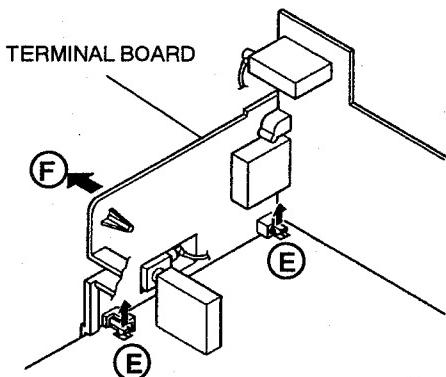
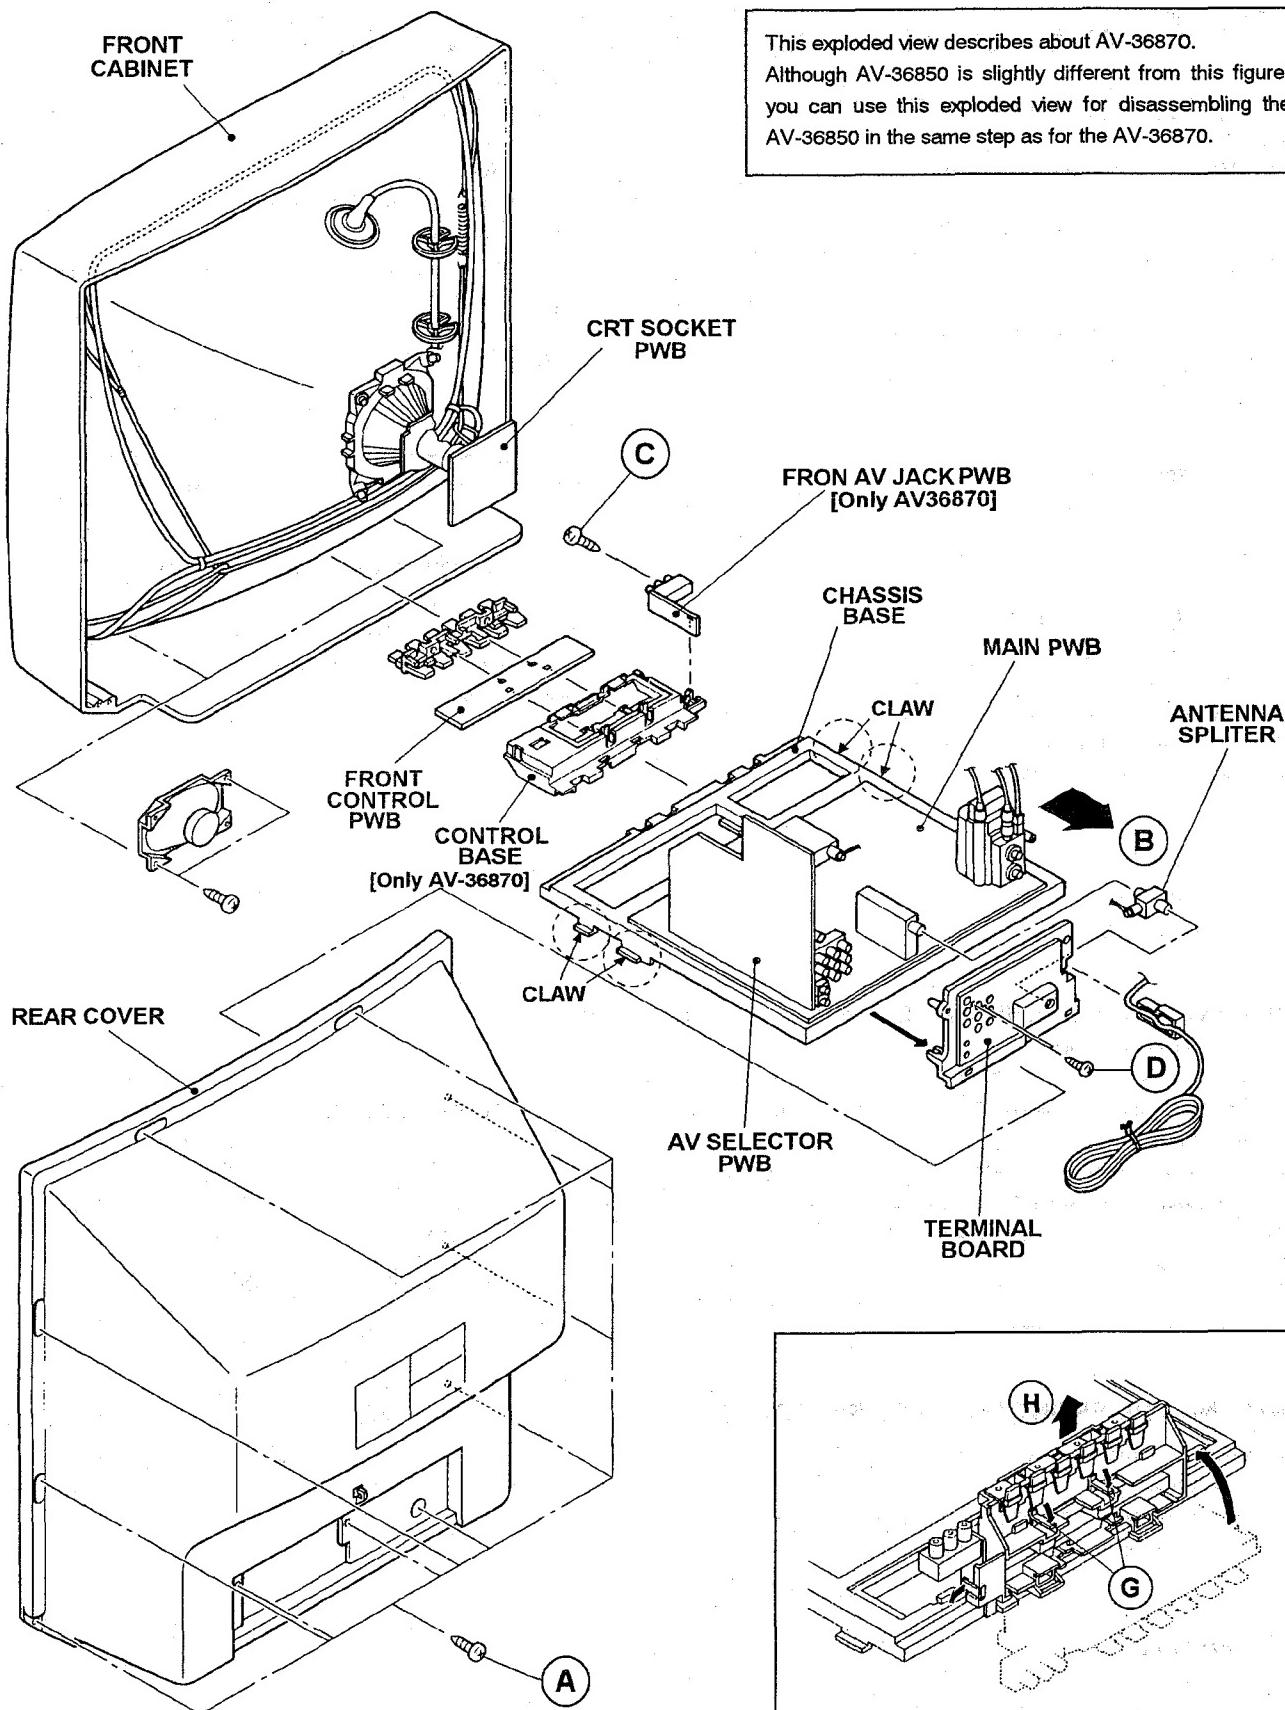

Fig. 1
Fig. 2
2. Remove the 11 screws marked A as shown in Fig.2.
Remove the screw marked C as shown in Fig.2.
2. Draw the chassis backward along the rail in the arrow direction marked B as shown in the Fig.2.
1. Remove the 2 screws marked D as shown in Fig.2.
2. After removing the claw marked E in the direction of arrow mark as shown in Fig.1.
3. When you pull out the AV TERMINAL BOARD in the direction of arrow marked F as shown in Fig.1, it can be removed.
(4) System constant check and setting <ul style="list-style-type: none"> <li>1) [ AV-36870 : RM-C885 ] Simultaneously press the DISPLAY key and VIDEO STATUS key of the remote control unit. [ AV-36850 : RM-C745 ] Simultaneously press the OSD key and STATUS key of the remote control unit. [AV-36850 : RM-C745]</li> <li>2) The SERVICE MENU screen of Fig.1 is displayed.</li> <li>3) While the SERVICE MENU is displayed, again simultaneously press the DISPLAY (OSD) and VIDEO STATUS (STATUS) keys to display the Fig.2 SYSTEM CONSTANT screen.</li> <li>4) Refer to the SYSTEM CONSTANT table and check the setting items. Where these differ, select the setting item with the MENU UP / DOWN key and adjust the setting with the MENU LEFT / RIGHT keys. (The letters of the selected item are displayed in yellow.)</li> <li>5) After adjusting, release the MENU LEFT / RIGHT key to store the setting value.</li> <li>6) Press the EXIT key twice to return to the normal screen.</li> </ul>	 <p>Fig.1</p>
(5) Receive channel setting Refer to the OPERATING INSTRUCTIONS (USER'S GUIDE) and set the receive channels (Channels Preset) as described.	 <p>Fig.2</p>
(7) SERVICE MENU setting Verify what to set in the SERVICE MENU, and set whatever is necessary. (Fig.1) refer to the SERVISE ADJUSTMENT for setting.